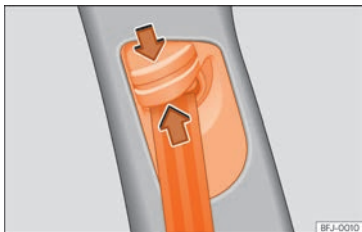

Fig. 14 Next to the front seats: belt height adjuster.
- Keep the guide device pressed down in the direction of the arrow »» **Fig. 14**.